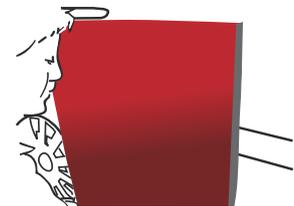

Figure 07
- › Remove the whole liner. (FIG. 07)